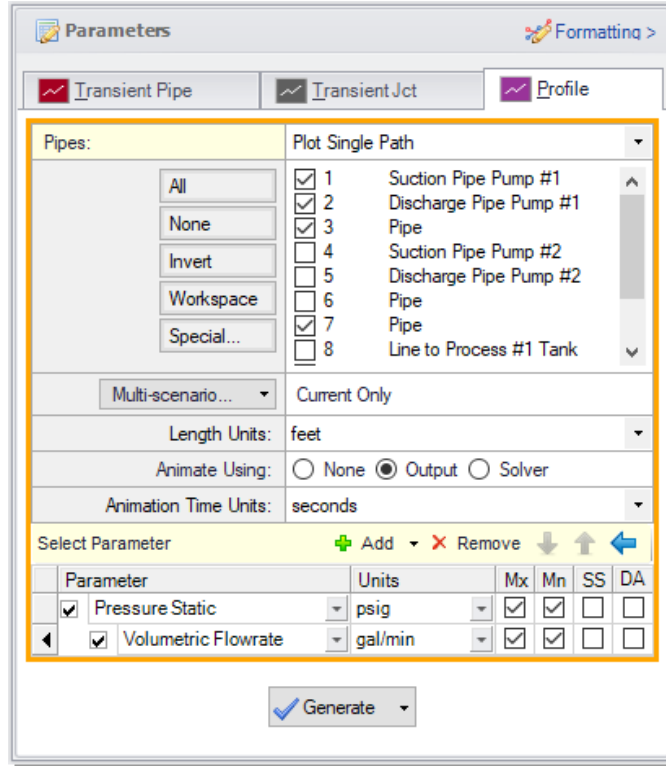

Figure 3.10 Selecting animation in Graph Results for the Two Pump Start scenario
4. As was done previously, specify that the volumetric flowrate will be plotted on the secondary y-axis by double-clicking on the column in front of “Volumetric Flowrate” in the Parameters definition area. Note that “Volumetric Flowrate” becomes indented under “Pressure Static”, and that the black arrow next to “Volumetric Flowrate” turns to point towards the graph (Figure 3.10).
8. Specify for both the static pressure and volumetric flowrate graphs that you want to see the maximum and minimum values plotted along the length of the graphed path by placing a checkmark in the boxes in the Mx and Mn columns next to each parameter (See Figure 3.10).
Another animation option in Figure 3.10 is “Animate Using: Solver”. This option reruns the Transient Solver to generate the data for animation, and thus does not need to read it from file. Therefore, it does not require all of the pipe station data to be saved in Transient Control.